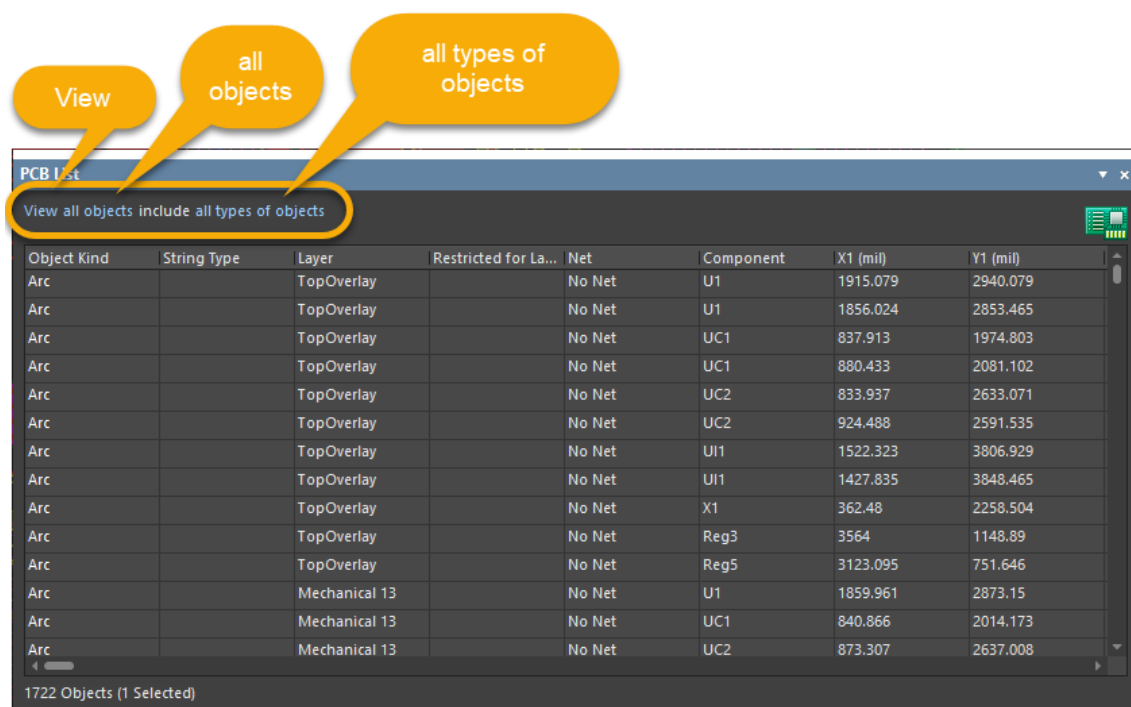

Figure 12. *PCB List* panel showing All Objects in the design
40. Change the list settings in the top-left corner of the panel to match those shown in Figure 12, by clicking on the words with the hyperlink.